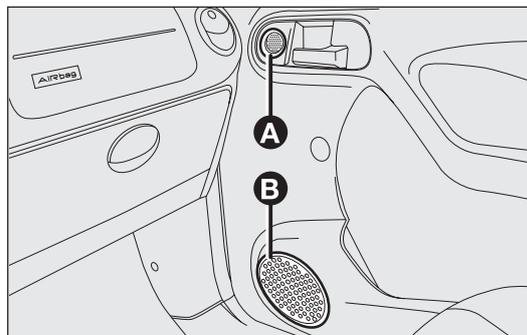

fig. 95
- two tweeters A – fig. 95 and two woofers B, 40 W max. power each, on the front doors;